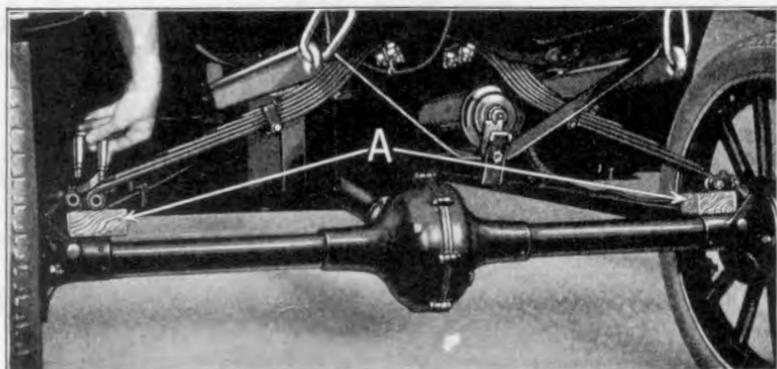

Fig. 366
- 664 To facilitate lining up spring with perch so that hanger on opposite side can be installed a block of wood is placed under each end of the spring allowing the weight of the car to rest on the blocks (See "A" Fig. 366).
- 705 Insert one of the two spring hangers through perch and end of spring. To facilitate installing the other hanger place a block of wood approximately 2" thick under each end of spring in the same manner as the rear springs were blocked (See Fig. 366). This will line up spring with perches so that hanger can be readily inserted.